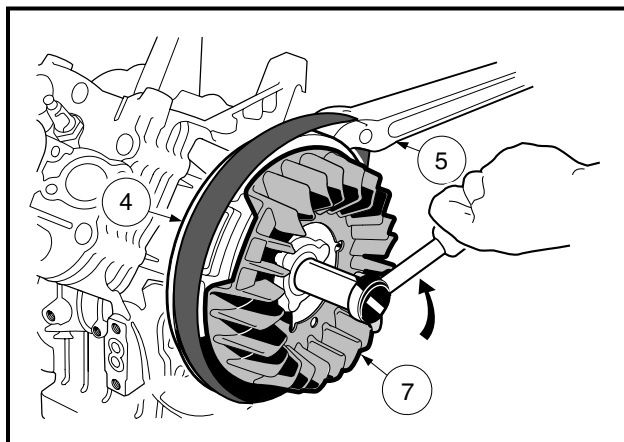

Figure 18-55 Flywheel Nut
3. Hold the flywheel (4), not the fan (7), with a strap wrench (5) and use a 25 mm socket to remove the flywheel nut (and flat washer) by turning it counterclockwise (**Figure 18-55, Page 18-29**). See following **CAUTION**.